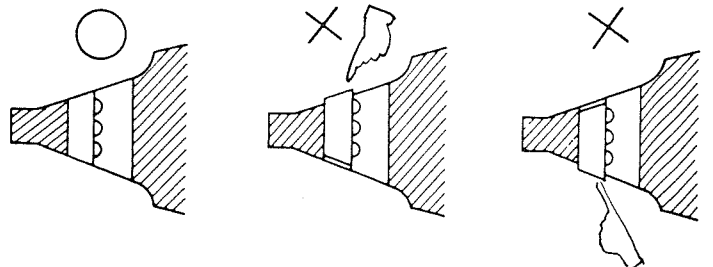

Fig. 4-45
- (d) Push the rubber pin lock into the nose hole so as not to stick out of the nose surface as shown in Fig. 4-45.